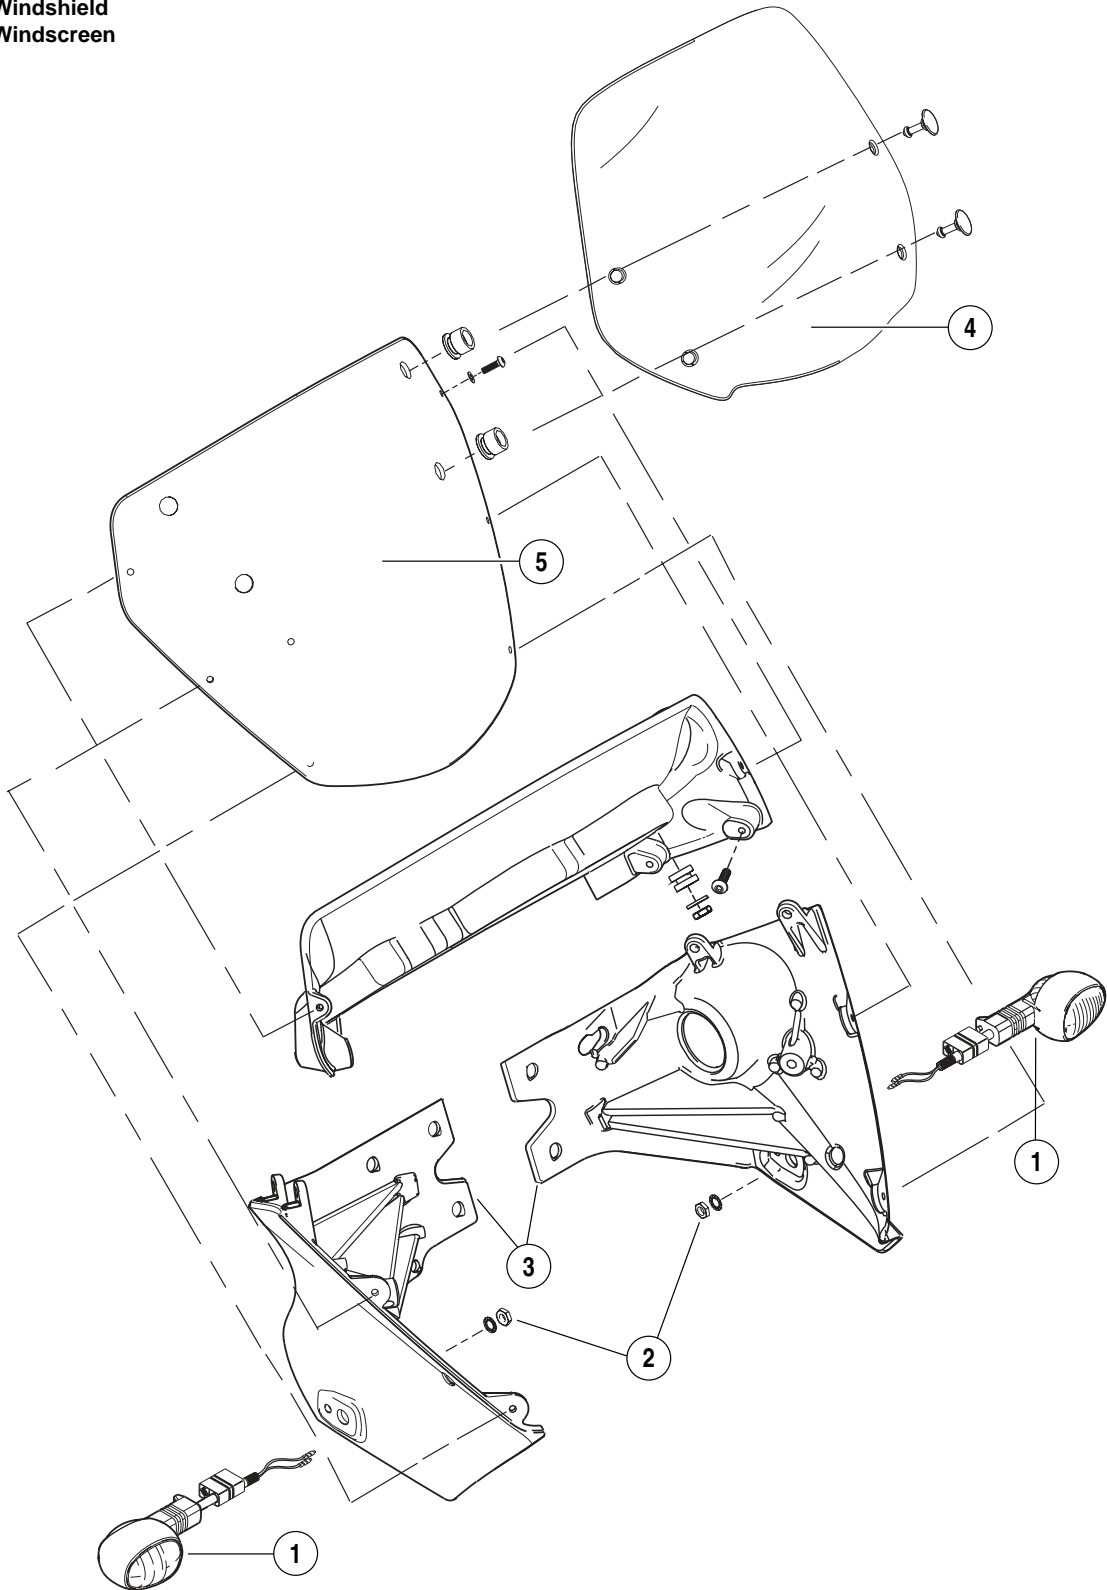

Figure 7-54. Front Turn Signals
3. See Figure 7-54. Remove jam nut and lockwasher (2) from inside of front module (3).
4. Pull bullet connectors and wiring through hole in front module (3) and remove turn signal (1).
- See Figure 7-54. Insert bullet connectors and wiring through hole in front module.